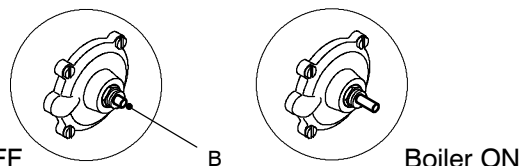

Fig. 49
- 3 Looking through the switch box verify the position of the shaft B referring to Fig. 49.